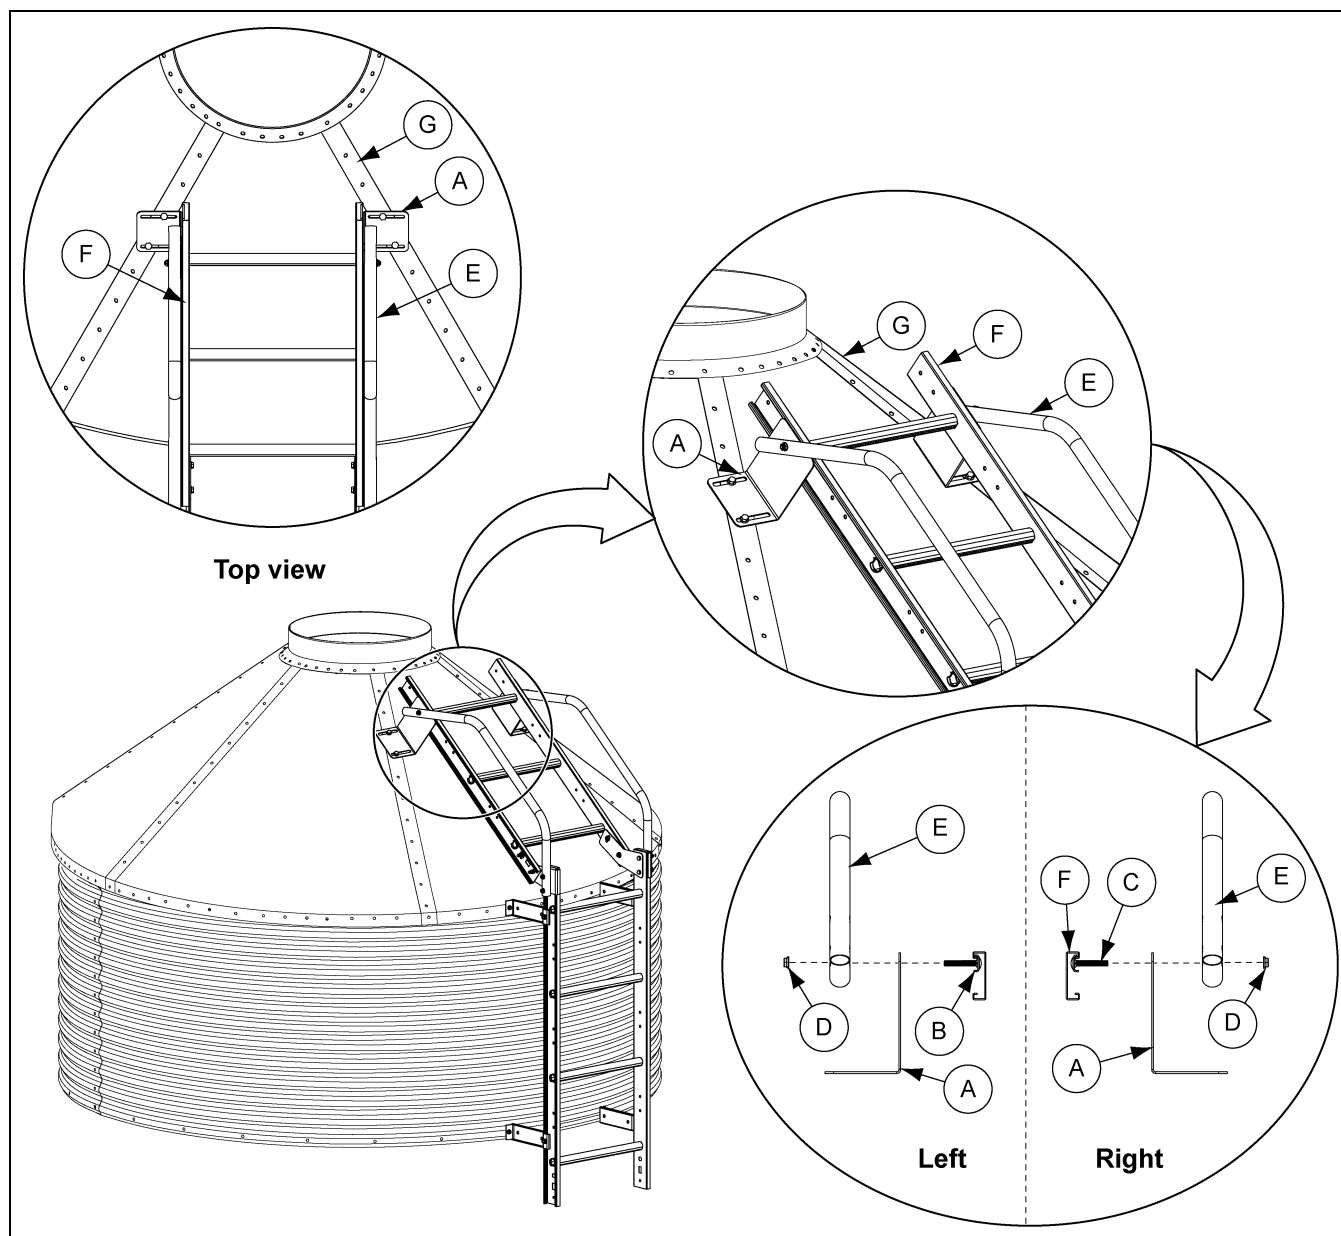

Figure 8D 6'-40°, 7'-30° and 7'-40° Roofs
3. **6'-40°, 7'-30° and 7'-40° Roofs:** The support brackets (A) are bend out away from the center of the roof ladder (F). (See Figure 8D on Page 31.)
4. Slide the wedge (B) and the support brackets (A) along the roof ladder rail (F) until the slots in the support brackets (A) match with the pre-punched holes in the roof panel (G) and attach using the existing roof panel bolts.
5. Secure the roof ladder rail (F), support brackets (A), wedge (B) and the handrail (E) using 5/16" bolts (C) and 5/16" flange nuts (D).